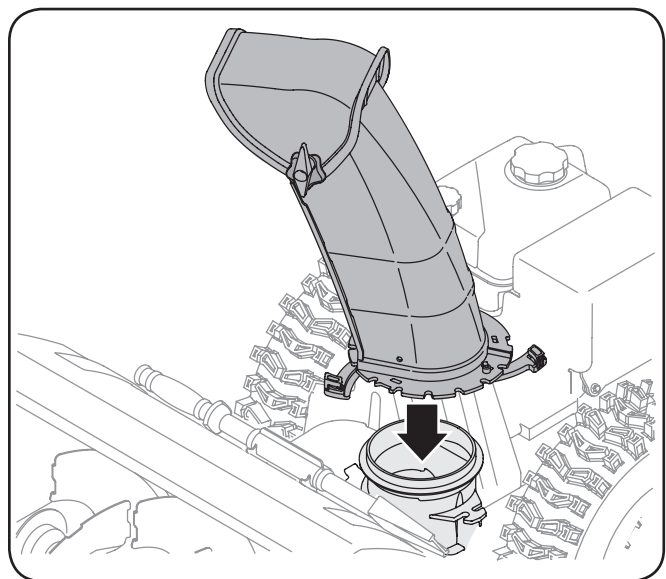

Figure 3-3
1. Position the chute assembly over the base. See Fig. 3-3.